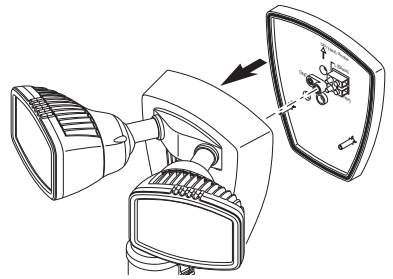

Figure 1
1. Unscrew the center mounting bolt connecting the fixture canopy to the 1-2-Easy Connect™ and remove the 1-2-Easy Connect™ (see Figure 1). The mounting bolt is designed to stay in the light fixture. *Note:* Be sure rubber gasket is on the 1-2-Easy Connect™.